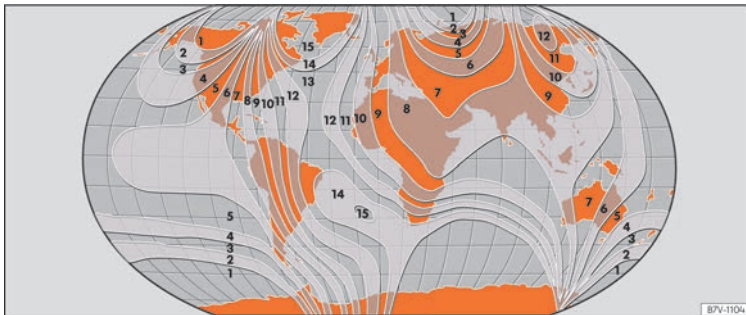

Fig. 80 Magnetic zones
- Select the magnetic zone corresponding to the position of the vehicle » Fig. 80.